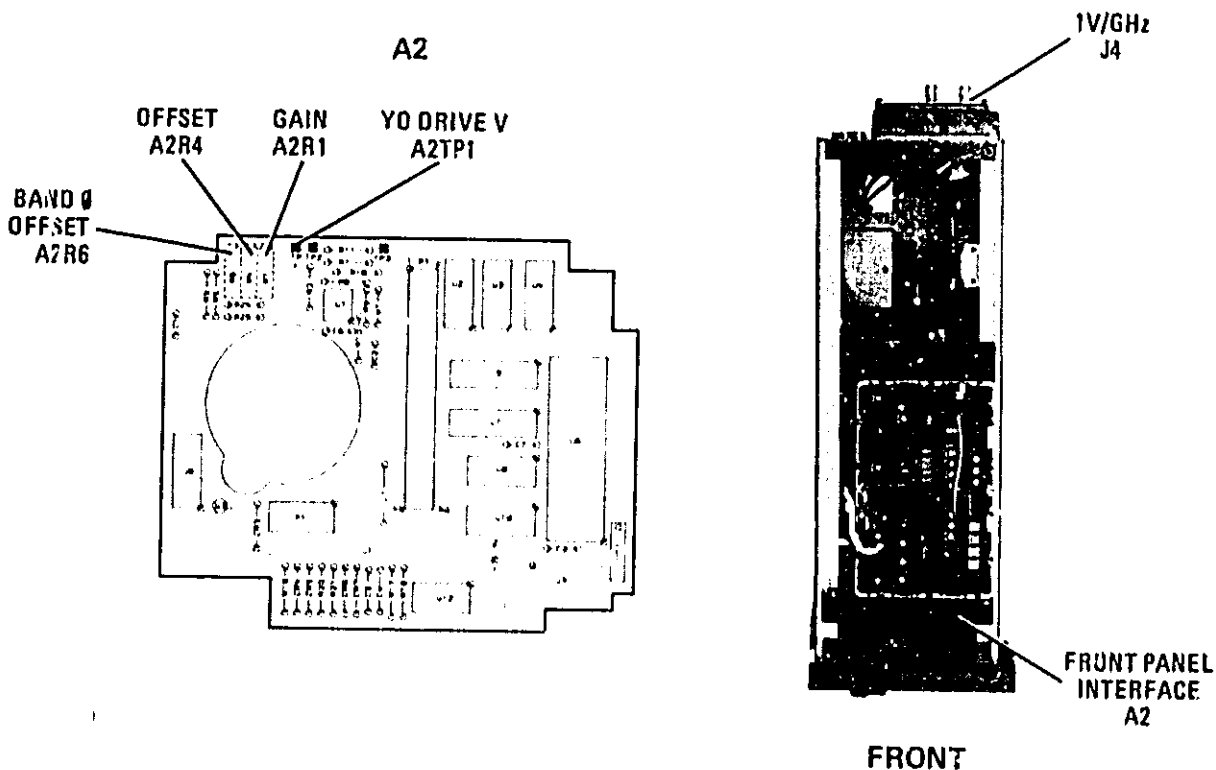

Figure 5-16. Frequency Reference Adjustments Location
1. Connect a DVM to A2TP1 (Figure 5-16).